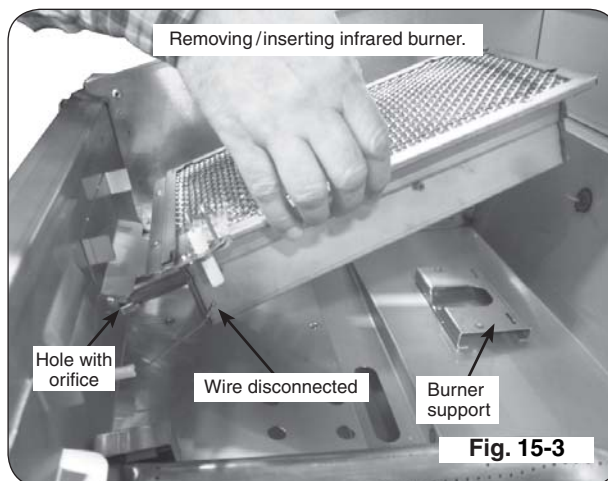

Fig. 15-3
4. Carefully lift the infrared burner from the burner support and out from the hole in the forward fire wall (see Fig. 15-3).
5. Using a  $\frac{3}{8}$ " socket, remove the orifice from the valve. Access this through the hole in the forward firebox plate (see PARTS LIST and Fig. 15-3). Check the number stamped on the face of the orifice (see Table 1).